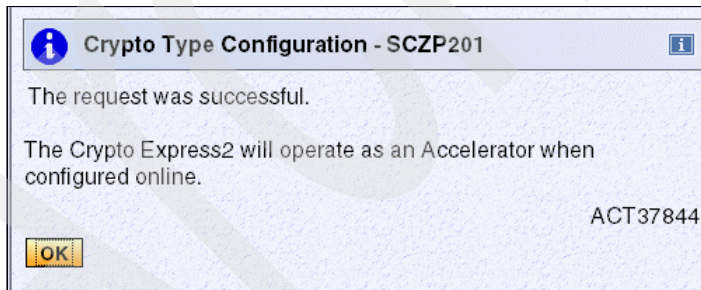

Figure 8-24 SE - Crypto Type Configuration Confirmation, message ACT37844
6. Check that your request completed successfully (Figure 8-24). Click **OK** to return to the Crypto Type Configuration panel.